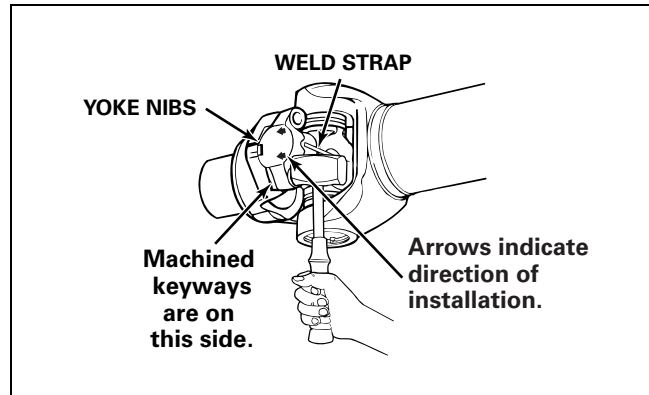

Figure 4.42
2. If necessary, tap the universal joint with a brass or copper hammer to ensure it is fully seated. Figure 4.42.